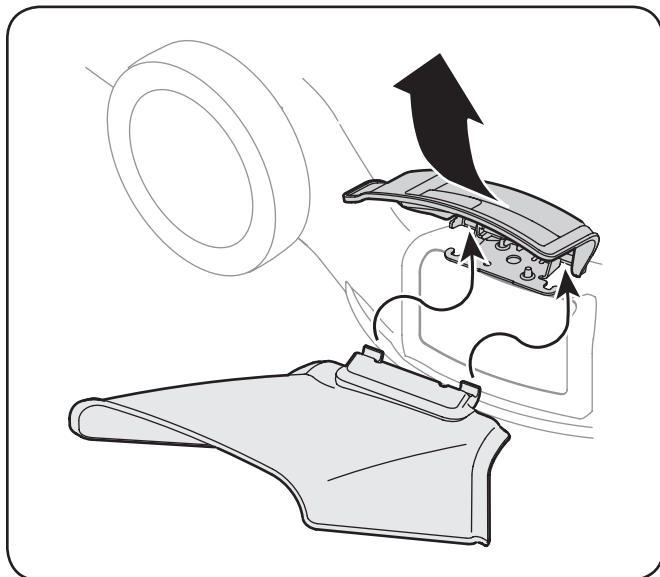

Figure 3-7
2. Slide chute hooks under hinge pin on mulching plug assembly. Lower mulching plug. See Figure 3-7. Do not remove side mulching plug at any time, even when you are not mulching.